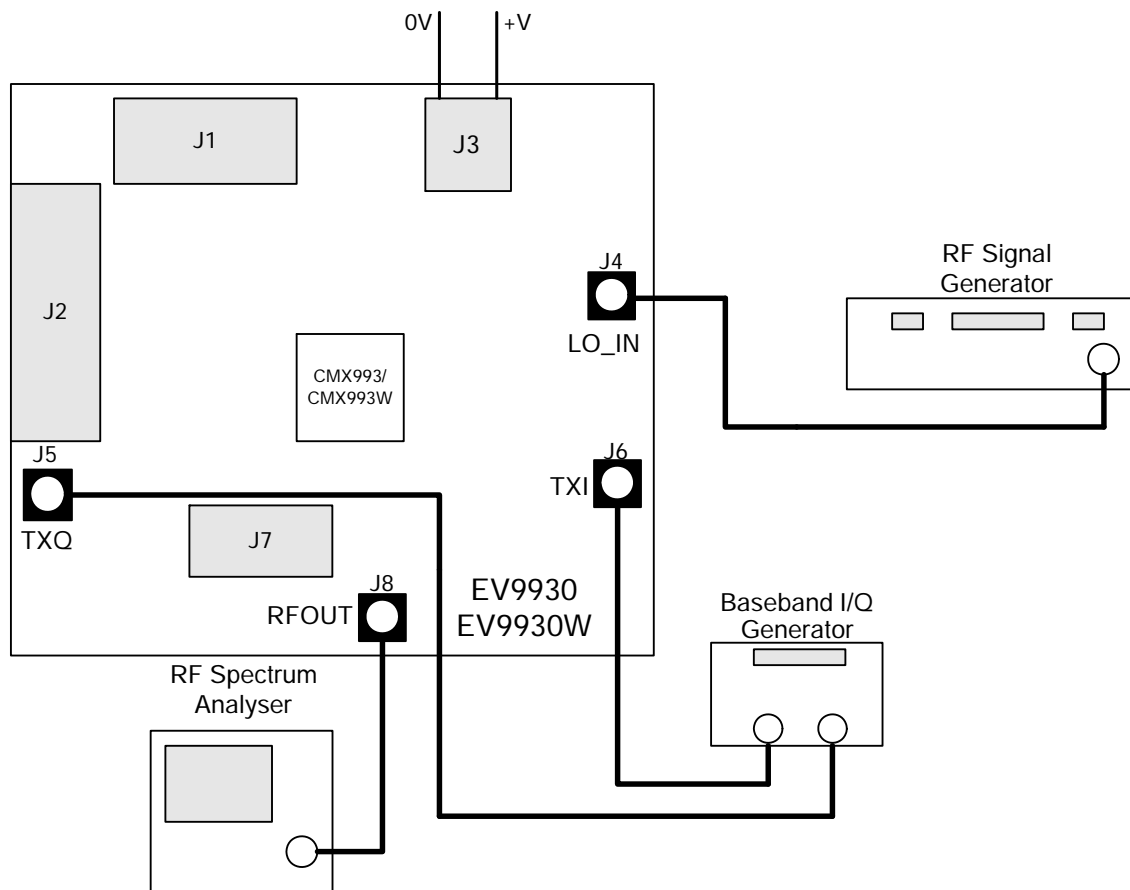

Figure 2 Typical Evaluation Connections for EV9930/EV9930W
1. Connect test leads as shown in Figure 2.